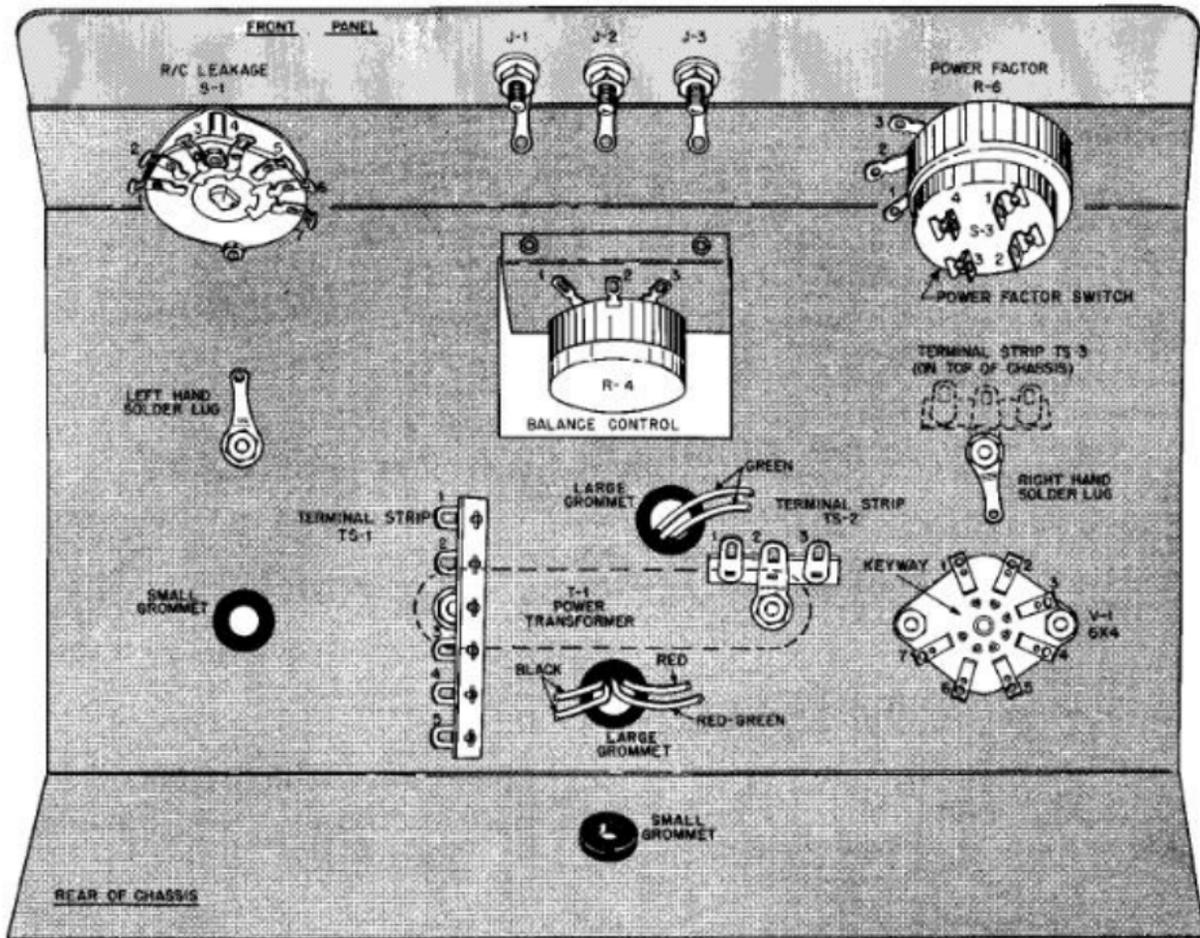
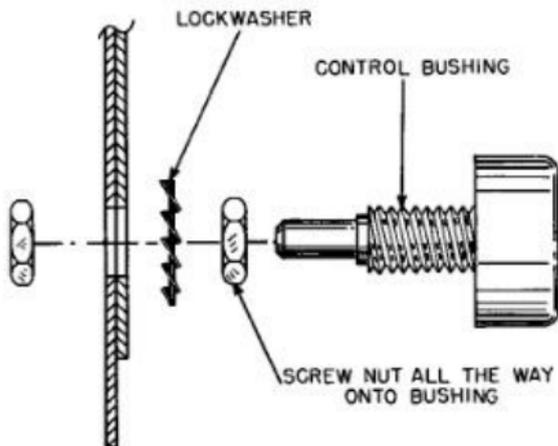
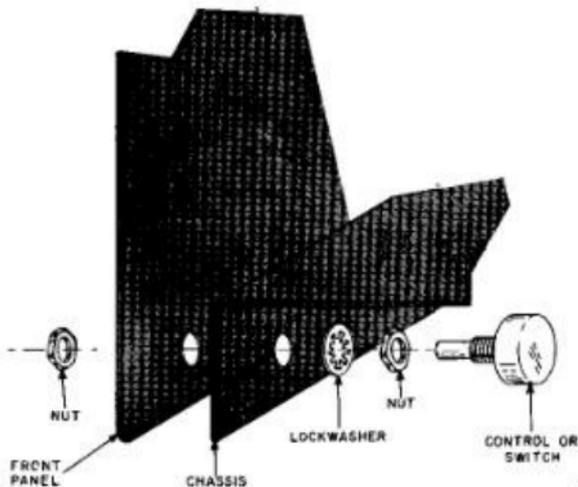

FIGURE 1. MOUNTING THE PARTS ON THE CHASSIS
FIGURE 2. HOW TO MOUNT A CONTROL
FIGURE 3. HOW TO MOUNT THE FRONT PANEL WITH A CONTROL
## REFER TO FIGURE 1.
- (X) Mount the 7-pin wafer socket inside the chassis over the hole near the right rear edge of the chassis with two machine screws and nuts. The keyway (the wide open space between two of the socket pins) must be toward the left and front of the chassis.
- (X) In front of the 7-pin socket, mount the other three-terminal strip (TS-3) on the outside of the chassis, shown in broken lines in Figure 1, and a solder lug on the inside of the chassis, with a machine screw and nut. This solder lug will be referred to as the Right Hand Solder Lug.
- (X) Mount R-4, the 10K ohm potentiometer without a switch, on the bracket that is welded to the top of the chassis so its terminals point toward the rectangular hole in the chassis. Figure 2 shows how to mount a control using two nuts and a lockwasher
- (X) Mount the front panel to the chassis with R-6, the 800 ohm potentiometer with a switch. See Figure 3. The potentiometer terminals must be toward the center of the chassis, as shown in Figure 1.
- (X) Mount S-1, the single-wafer switch, in the left hand hole in the front of the chassis. Position the switch as shown in Figure 1. See Figure 3.
(X) Mount the double-wafer switch (S-2) in the small hole near the top of the front panel. See Figure 2. The open space on the rear wafer must be toward R-4, as shown in Figure 1.